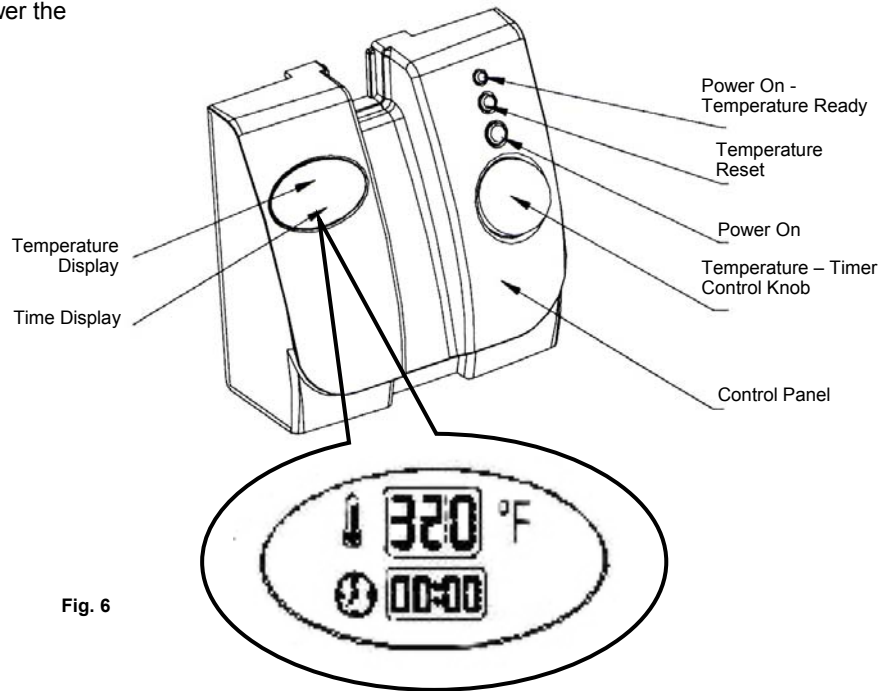

Fig. 6
- temperature, press and turn the knob counter-clockwise. When you press the knob the unit will beep again. The upper screen will display the temperature that you set. When the temperature of the oil is reached, the green ready indicator light come on. Fig. 6